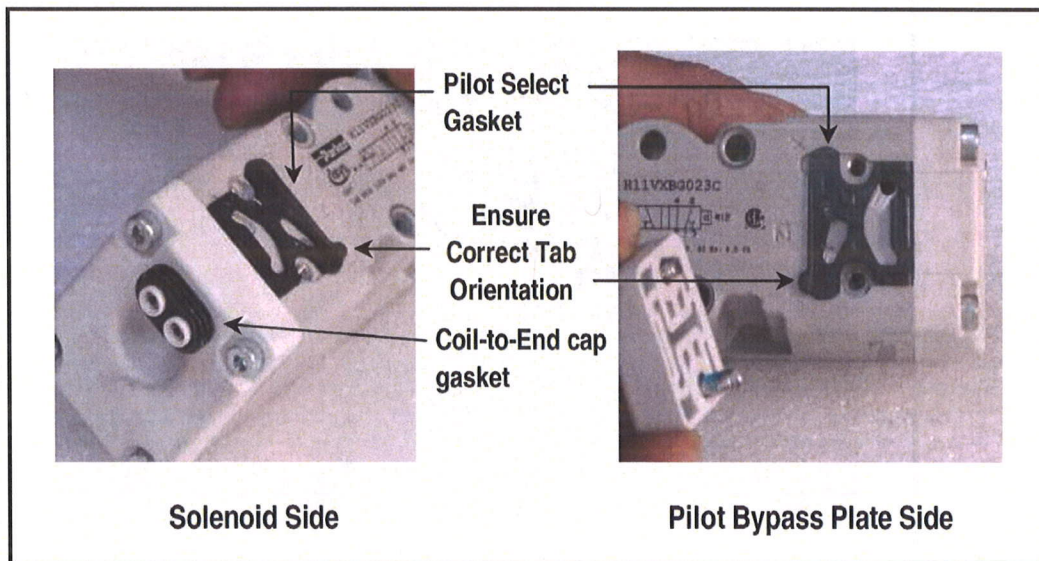

Figure 16: Two Pilot Select Gaskets - Orientation
2. Remove four mounting screws on pilot valve body using 4mm hex key (Figure 16) to disengage from stack.
- a. Remove two solenoid screws using 3mm hex key (See Figure 16).